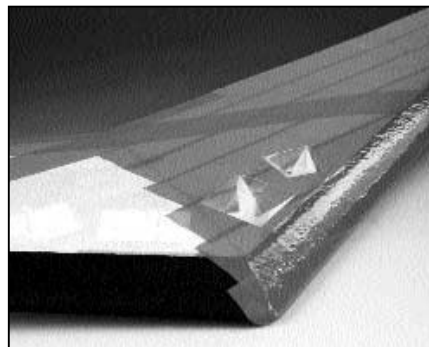

fig.4
- ❑ 2. Now lay strips of tape from the tip to the centre of the wing at least 50mm past the centre. Lay one strip of tape at a time, working forward and over lapping by approximately 6mm each time (see fig. 4). Cut the tape in line with the leading edge wrapping around approximately 20mm. Now repeat for the other panel and also the other side of the wing.
- ❑ 6. You will now need to clear the covering from the R/C ready-moulded holes. Cut the covering diagonally across each hole, fold down and stick (see fig. 4).